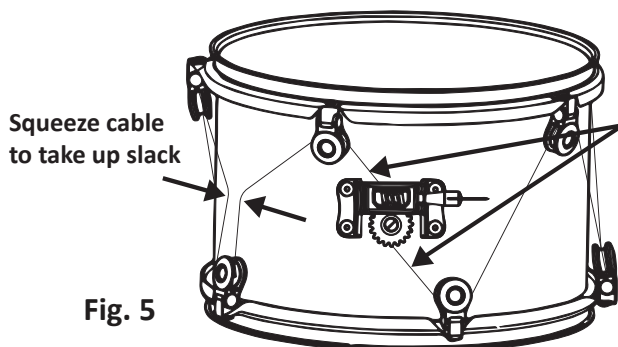

Fig. 5
8. Take up slack in the cable with a free hand and begin winding the post by turning the handle of the tuning knob clockwise (**Fig. 5**). Keep the cable taut while winding.